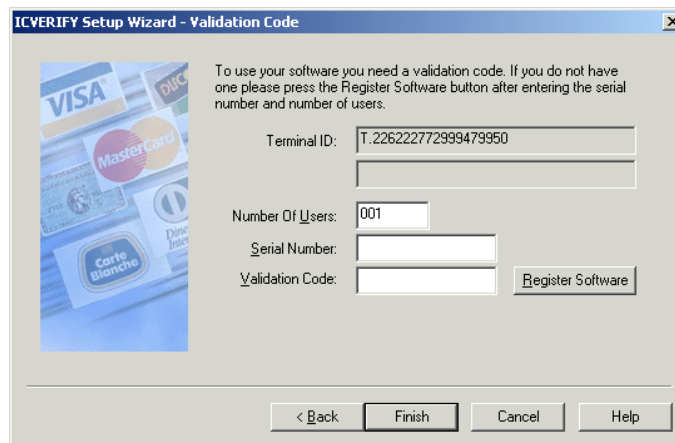

Figure 4.0.3-2: Serial Number & Validation Code
44. Left-click “Next” to proceed to the “Validation Code” window (see **Figure 4.0.3-2** below).